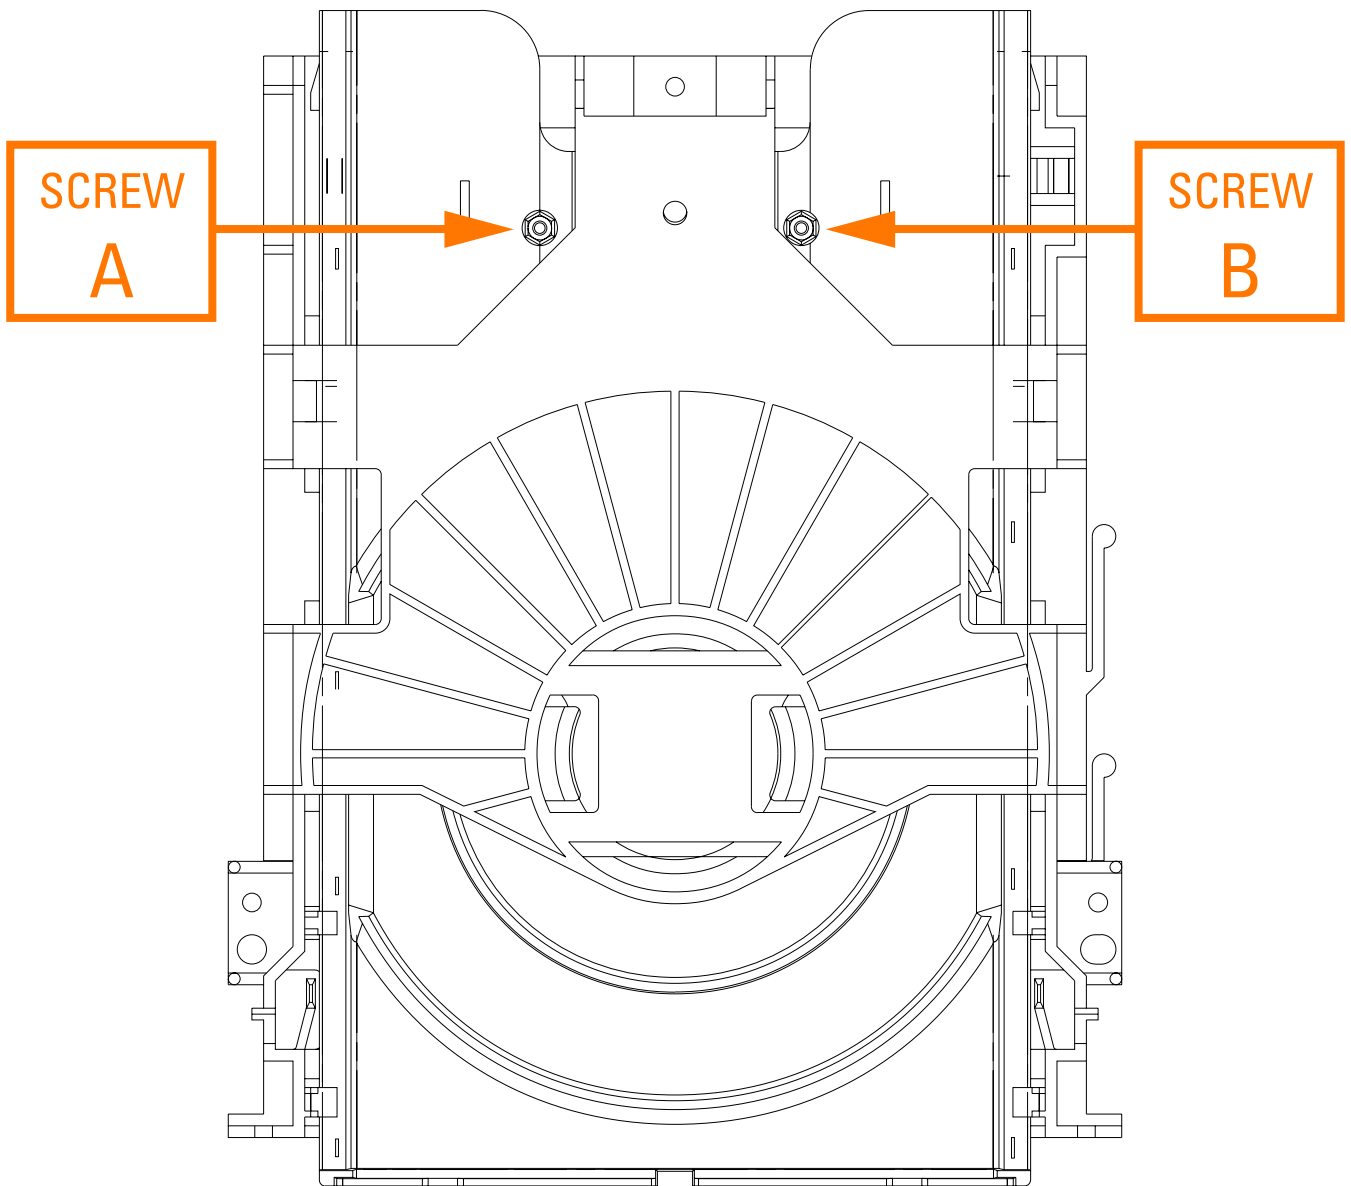

Fig. 2-2 Ass'y Deck (Top Side)
- 3) Adjust the Screws "A" and "B" (See Fig. 2-2) using a Hex screwdriver until you obtain a Flat Waveform and the picture is stable.